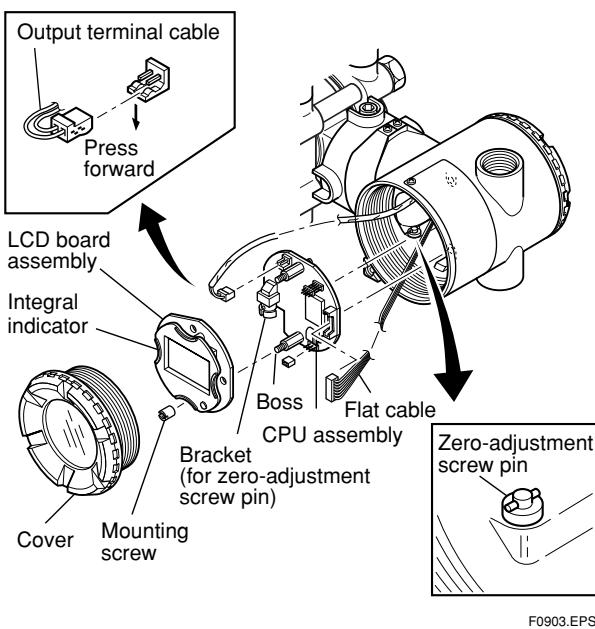

Figure 9.4.2 Removing and Attaching LCD Board Assembly and CPU Assembly
This subsection describes the procedure for replacing an integral indicator. (See Figure 9.4.2)
This subsection describes the procedure for replacing the CPU assembly. (See Figure 9.4.2)
- 2) Turn the zero-adjustment screw to the position (where the screw head slot is horizontal) as shown in Figure 9.4.2.